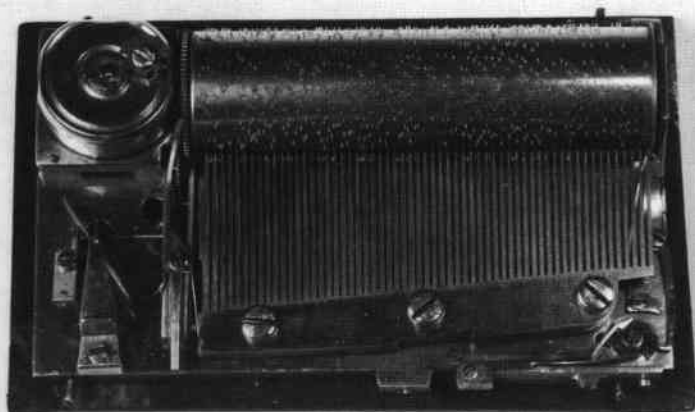
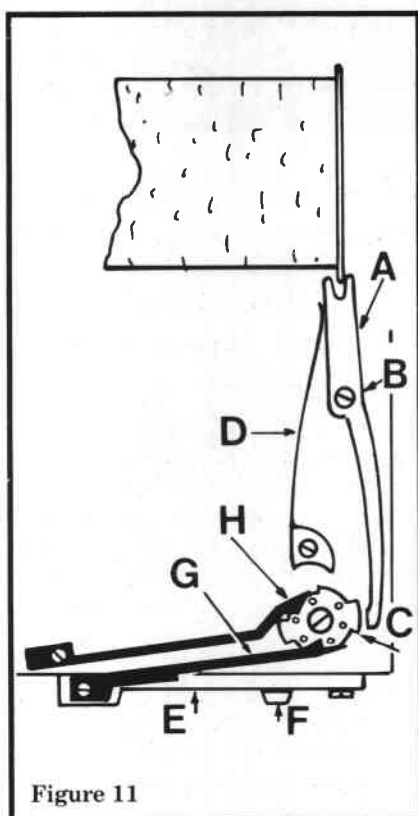

Figure 10
Figure 11
Of more interest in the present context is that it is a three-air box despite the size and the two control buttons on the front. The movement is shown in Figure 10 and the tune-change mechanism in Figure 11.
**Fig. 10.** Hammering the wrist pin home until the turns of the wire are within approximately 4mm from the surface of the wrist plank. It is preferable to use pins of a size larger than the original.